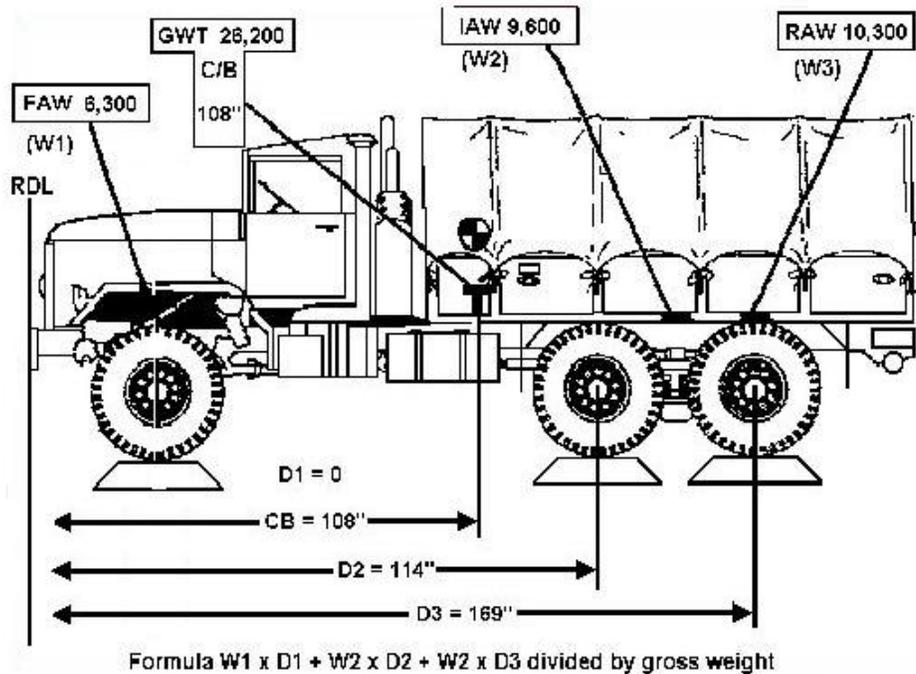

Figure 3-119
b. For tandem axles with separation that exceeds 48 inches, compute axle distances separately (see Figure 3-119).